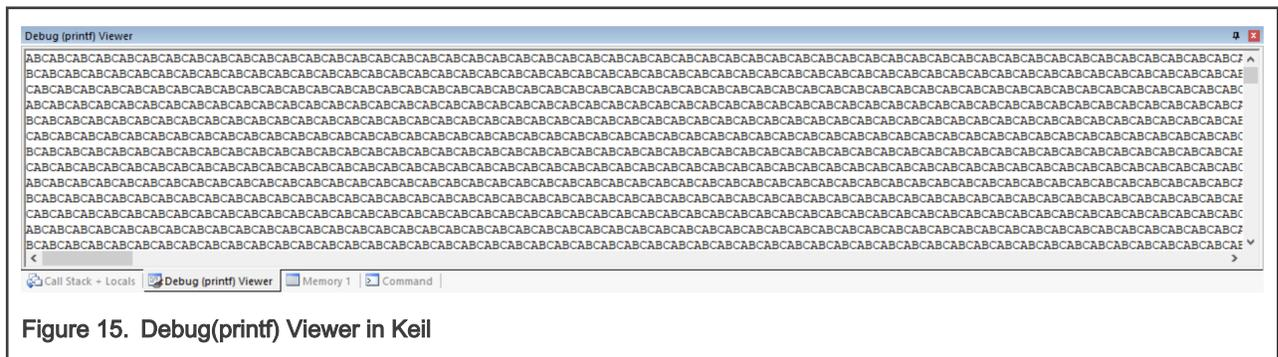

Figure 15. Debug(printf) Viewer in Keil
- Start debug session and click **View -> Serial Window -> Debug(printf) Viewer**. Run the project and the output message is as shown in Figure 15.